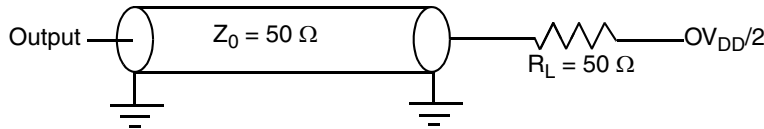

Figure 21. AC Test Load for the JTAG Interface
1. All outputs are measured from the midpoint voltage of the falling/rising edge of t_{TCLK} to the midpoint of the signal in question. The output timings are measured at the pins. All output timings assume a purely resistive 50 Ω load (see Figure 21). Time-of-flight delays must be added for trace lengths, vias, and connectors in the system.
2. The symbols for timing specifications follow the pattern of $t_{(first\ two\ letters\ of\ functional\ block)(signal)(state)\ (reference)(state)}$ for inputs and $t_{(first\ two\ letters\ of\ functional\ block)(reference)(state)(signal)(state)}$ for outputs. For example, t_{JTDVKH} symbolizes JTAG device timing (JT) with respect to the time data input signals (D) reaching the valid state (V) relative to the t_{JTG} clock reference (K) going to the high (H) state or setup time. Also, t_{JTDXKH} symbolizes JTAG timing (JT) with respect to the time data input signals (D) went invalid (X) relative to the t_{JTG} clock reference (K) going to the high (H) state. In general, the clock reference symbol is based on three letters representing the clock of a particular function. For rise and fall times, the latter convention is used with the appropriate letter: R (rise) or F (fall).
Figure 21 provides the AC test load for TDO and the boundary-scan outputs of the MPC8343EA.